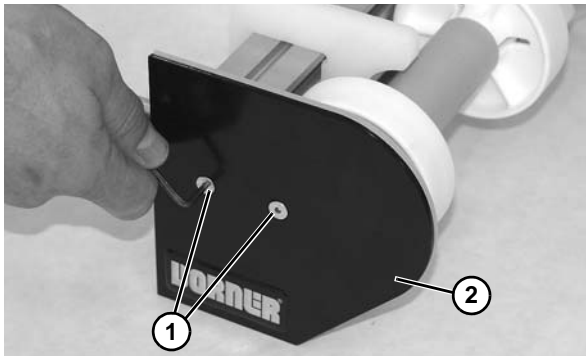

Figure 82
4. Remove the two flat head screws (**Figure 82, item 1**) and cover (**Figure 82, item 2**).